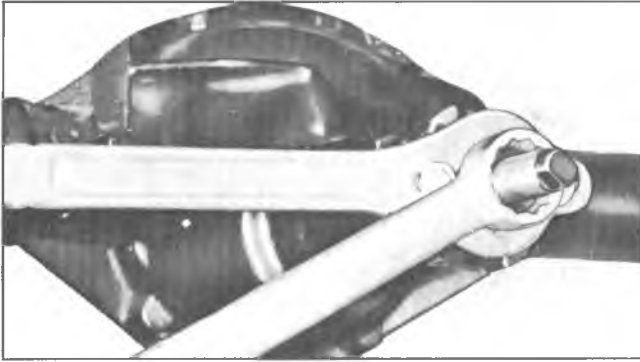

Fig. 28—Pinion Flange Installation
12. Position and align pinion flange on pinion shaft using Tools J-9458 and J-8614-1. Tool J-9458-1 is threaded onto pinion shaft and nut tightened against J-9458-2 to pull flange on shaft (fig. 28). Remove J-9458 after flange is seated.